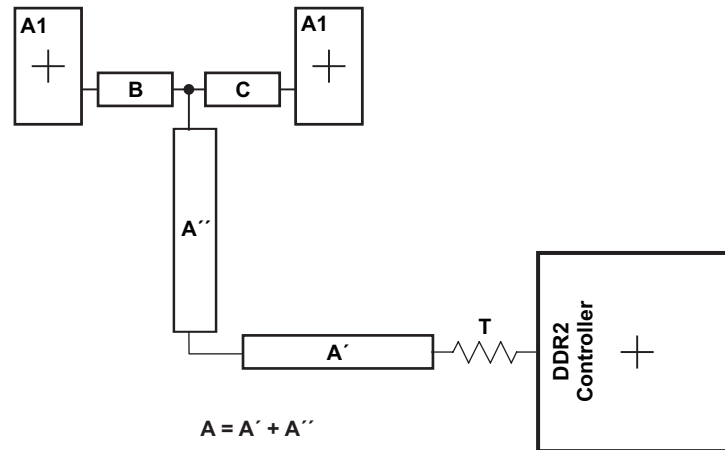

Figure 8-42. CK and ADDR_CTRL Routing and Topology
Figure 8-42 shows the topology of the routing for the CK and ADDR_CTRL net classes. The route is a balanced T as it is intended that the length of segments B and C be equal. In addition, the length of A ($A' + A''$) should be maximized.
(1) The length of segment A = $A' + A''$ as shown in Figure 8-42.
(2) Series terminator, if used, should be located closest to the device.
(3) Center-to-center spacing is allowed to fall to minimum (2w) for up to 500 mils of routed length to accommodate BGA escape and routing congestion.
(4) CACLM is the longest Manhattan distance of the CK and ADDR_CTRL net classes.